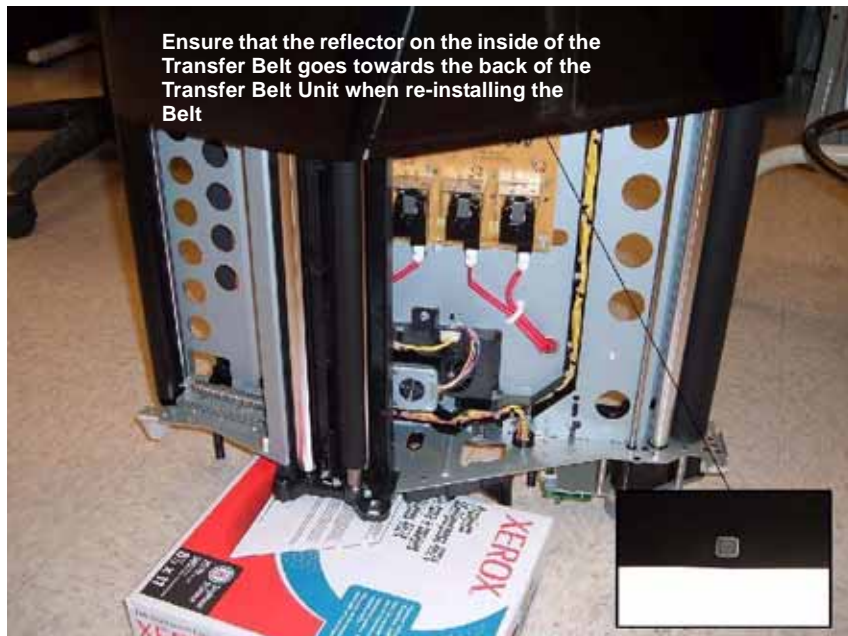

Figure 7 Re-installing the Transfer Belt
1. Re-install the Transfer Belt (Figure 7).